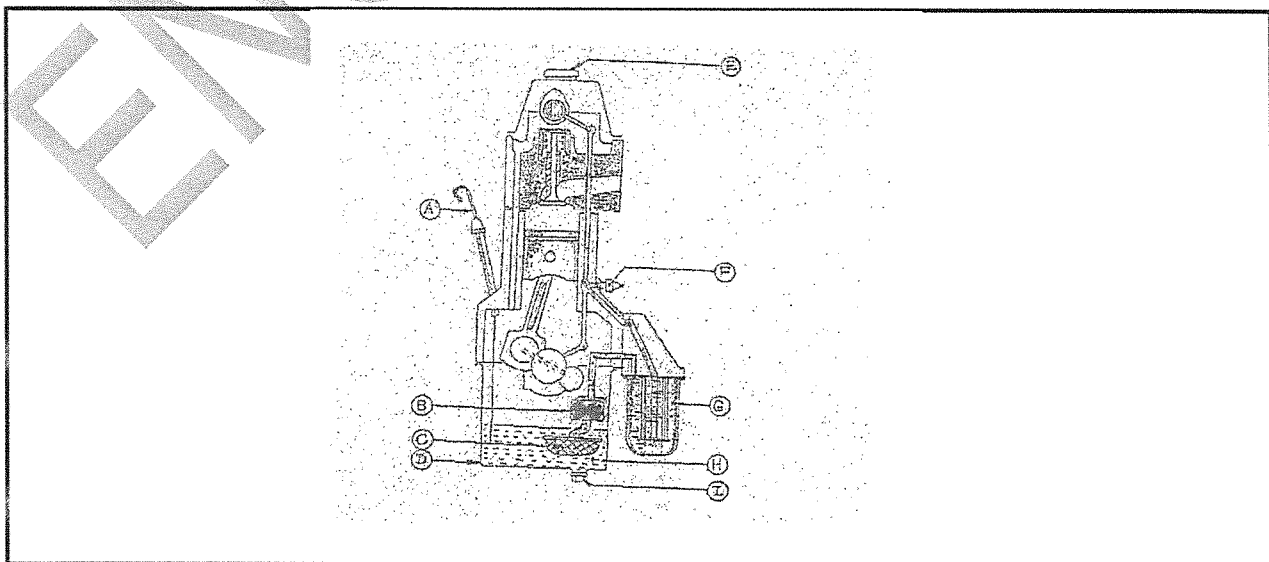

FIGURE 1
1.2 FIGURE 1 shows a sketch of the parts of an internal combustion engine.